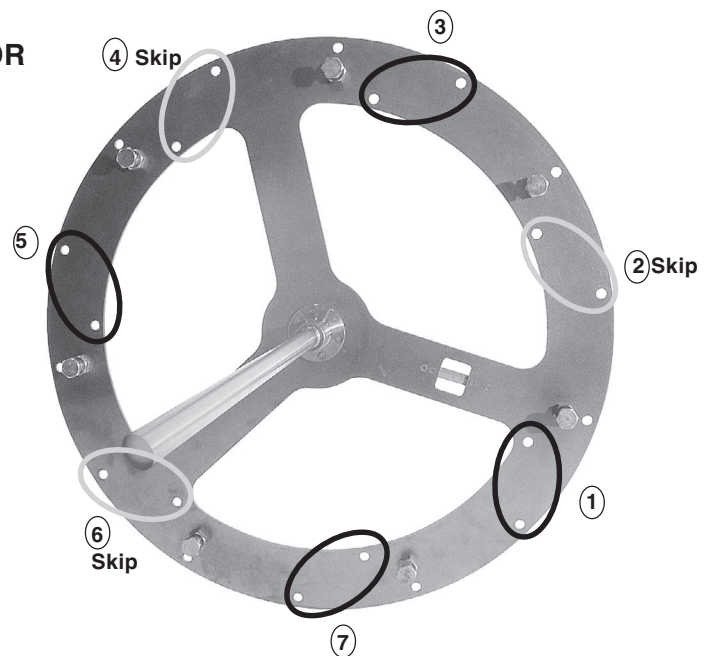

Fig. 11
- Using , load accessory into position 1, skip position 2, load position 3, etc. (Fig. 11).